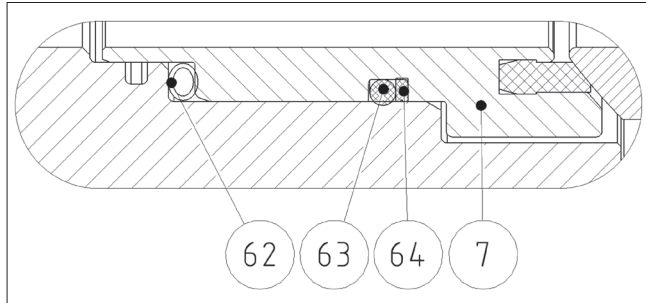

Fig. 14
- Place the back seal (O-ring) (63) into the groove in the seat. See Figure 14.
- Place the back-up rings (64) made of PTFE strips at the side of the O-ring. To ensure that the seam becomes flexible, the strip must have slanted ends.
- Place the spring (62) on the seat (7). See section R seat for installation of part (62).